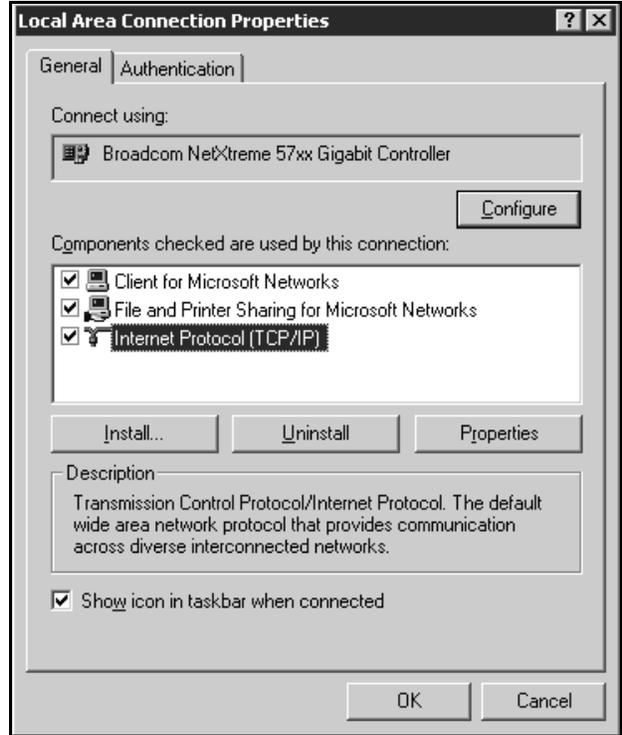

Fig. 5. Properties Page.
2. Right click on the appropriate LAN adapter that will be used for configuring the WebStat W7350A1000 and click **Properties** to open the **Network Adapter Properties** popup as shown in Figure 5. .